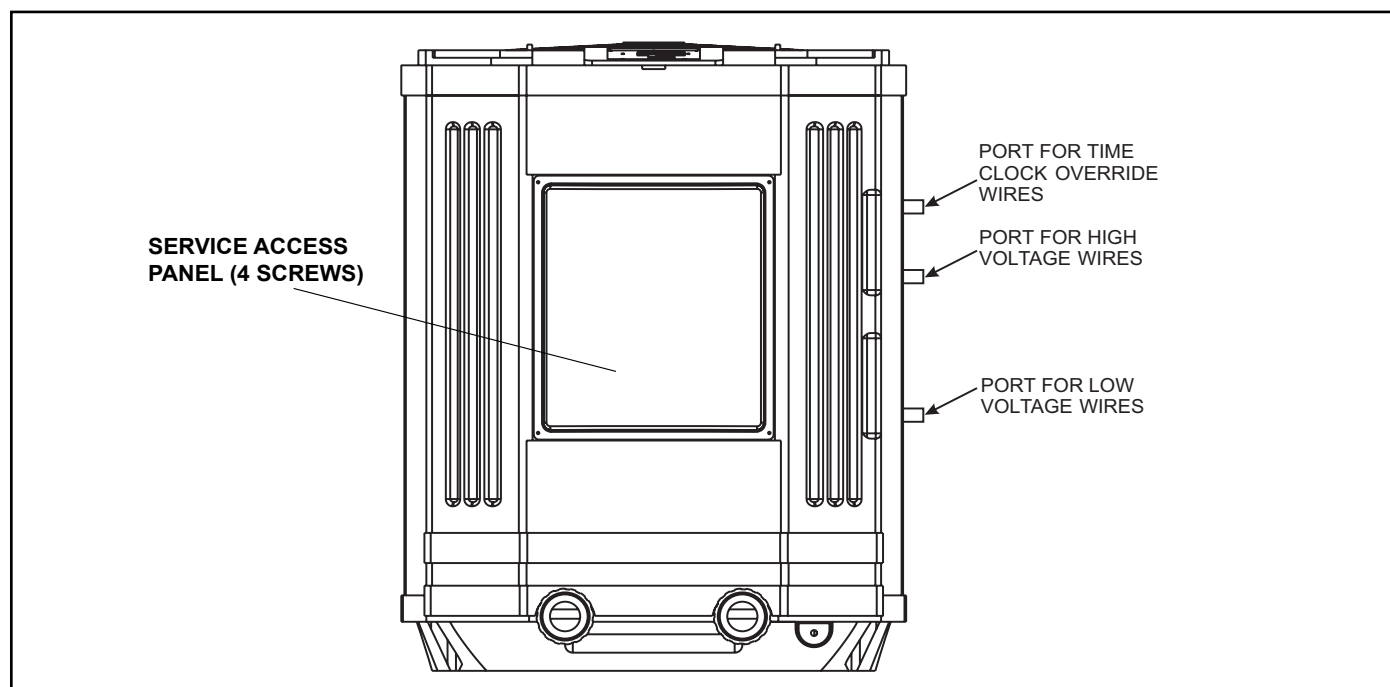

Figure 12. AE-Ti Heat Pump Front View
2. Remove the 4 screws that attach the service/access panel to the heat pump unit (see Figure 12).
4. Electrical supply lines must be run through watertight conduit. Run the wires and conduit from the power source and connect them to the conduit connection labeled “High Voltage Connection” on the right side of the heat pump. See Figure 12 for connection location.
2. Remove the 5 screws that attach the service/access panel to the heat pump unit (see Figure 12 on page 15). This will allow you to access the wires from the AE-Ti control panel for the remote control installation (see Figure 13).
3. Run the wires from the pool/spa control system into the conduit connection labeled “Low Voltage Connection”, located on the lower right hand side of the heat pump (see Figures 12 and 14).
NOTE One end of the wiring reserved to run into the conduit connection labeled "Low Voltage Connection", located on the lower right hand side of the heat pump (see Figures 12 and 14).